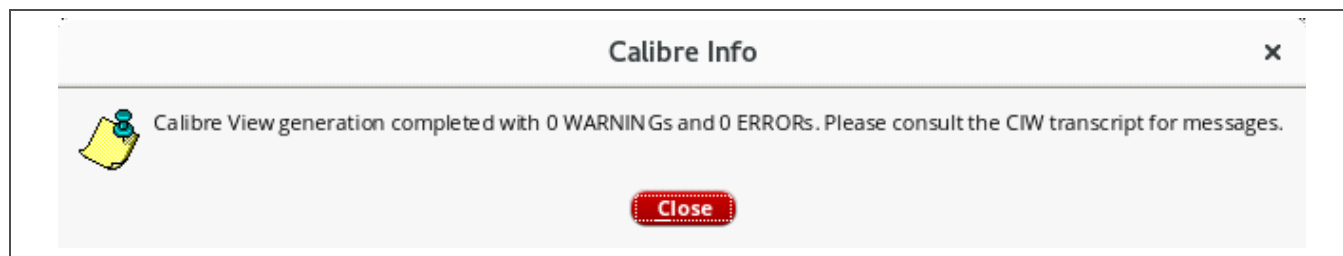

Figure 6-7. Calibre View Info Window
- When the Calibre view is generated, close the Calibre Info window, like the example shown in *Figure 6-7*, that indicates the number of warnings and errors found.